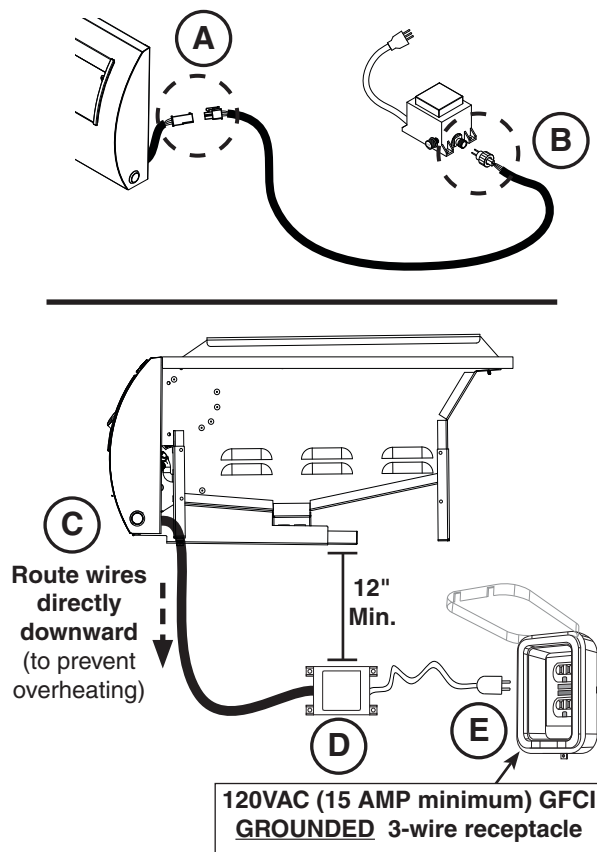

Fig. 24-1 Electrical installation
1. Locate the wire harness on the right side of the control panel. Cut the cable tie, and then connect it to the supplied wire harness extension. See Fig. 24-1, A.
2. Connect the wire harness extension to the power supply by inserting, then screwing on the cap (see Fig. 24-1, B).
3. Route the wire harness extension below the control panel and directly downward. This will prevent overheating. **DO NOT** route the wire extension below the grill/griddle. See Fig. 24-1, AC.
4. Mount the power supply box to the inside of the enclosure using appropriate hardware for your enclosure. It **MUST** be located at least 12 inches below the bottom of the unit. See Fig. 24-1, BD.
5. Connect the cord coming from the power supply to a **120VAC (15 AMP minimum) GFCI GROUNDED 3-wire receptacle** (see Fig. 24-1, CE). The GFCI receptacle must be a WEATHER-PROOF IN-USE COVERED RECEPTACLE.